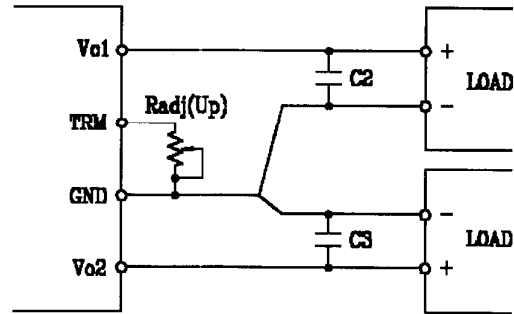

Fig. 3-4 : Connection for output voltage trim up
- a) GND terminal : to adjust to higher output voltage; Fig.3-4 or